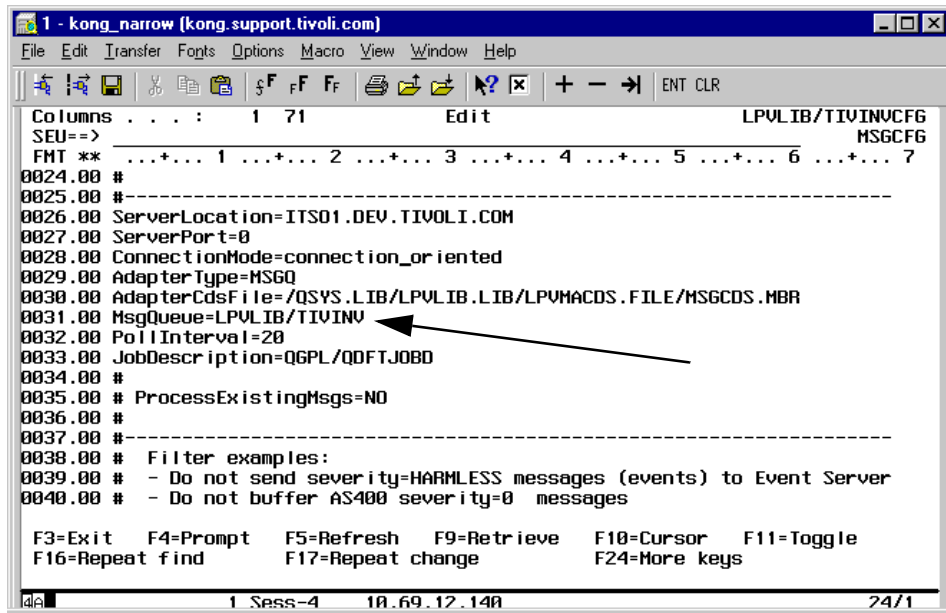

Figure 242. Editing the TIVINVCFG configuration file
2. Edit this new TIVINVCFG file to specify the LPVLIB/TIVINV message queue as shown in Figure 242 on page 394.